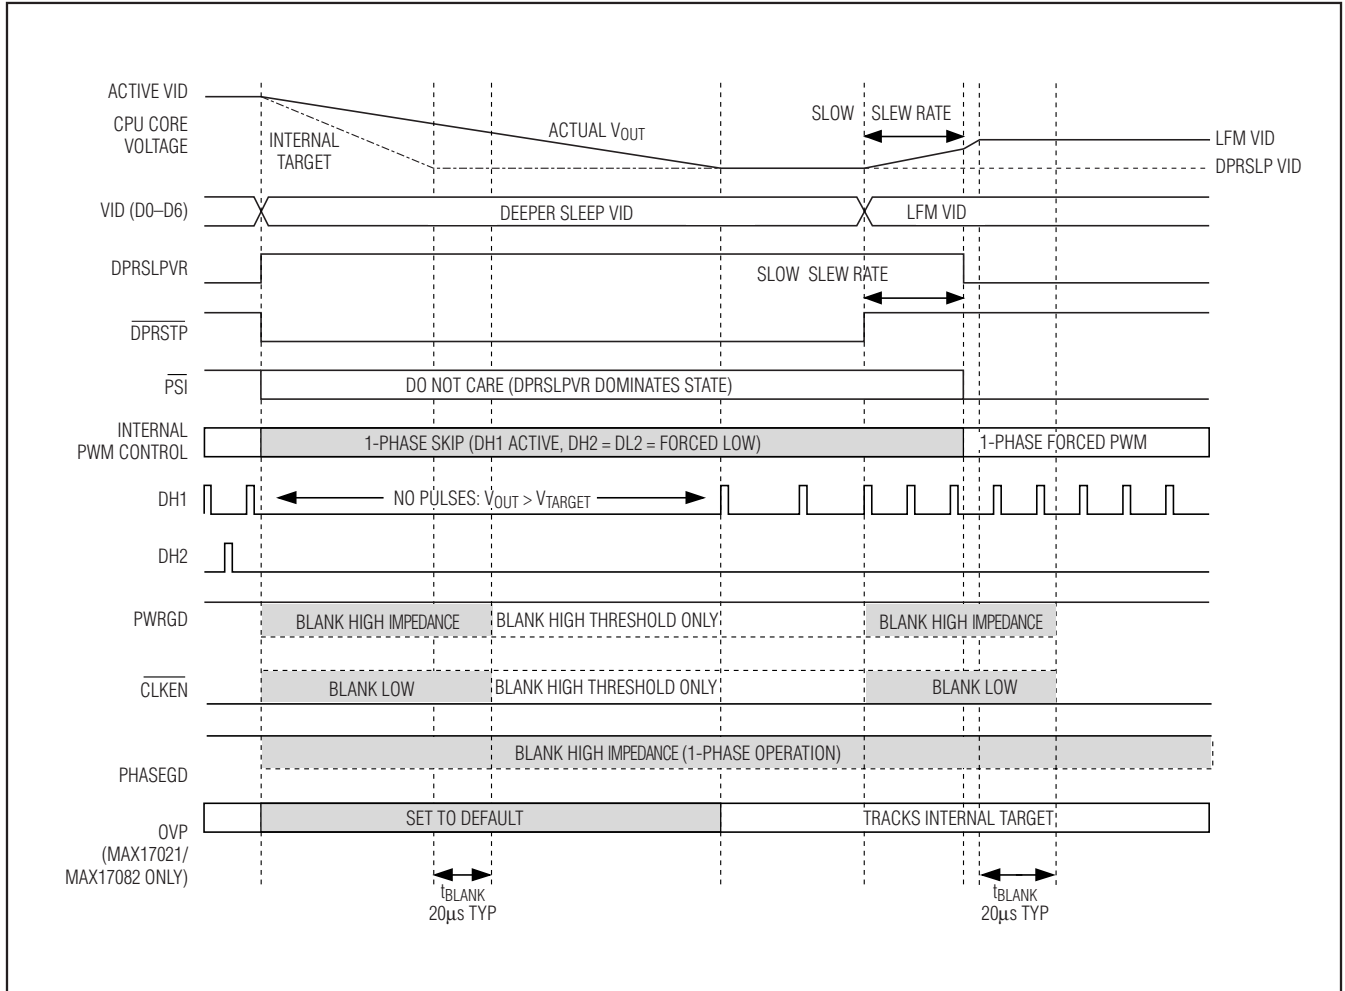

Figure 7. Slow C4 Transition
- IMVP-6+ Slow C4 Deeper Sleep Exit:** When exiting deeper sleep (DPRSLPVR high, DPRSTP pulled high) while the output voltage is regulating to the deeper sleep voltage, the MAX17021 remains in 1-phase skip mode and ramps the output voltage to the LFM DAC code provided by the processor at 1/4 the slew rate set by RTIME. The controller blanks PWRGD, PHASEGD, and CLKEN until 20µs after the transition is completed. See Figure 7.